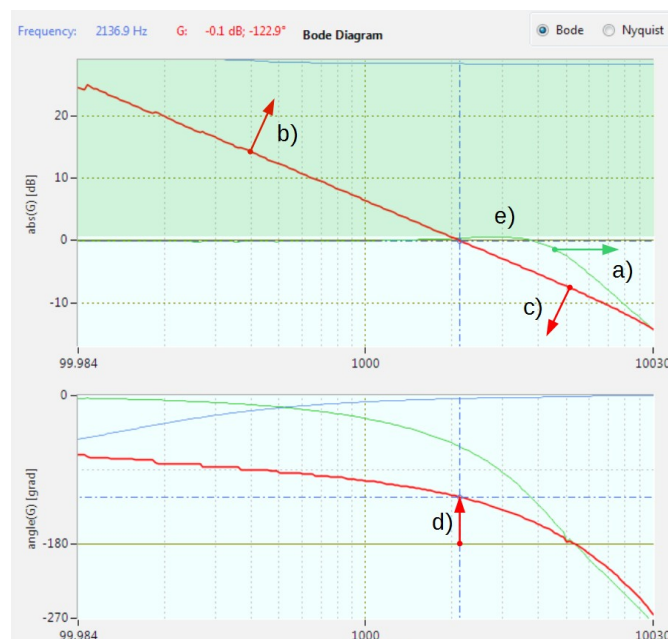
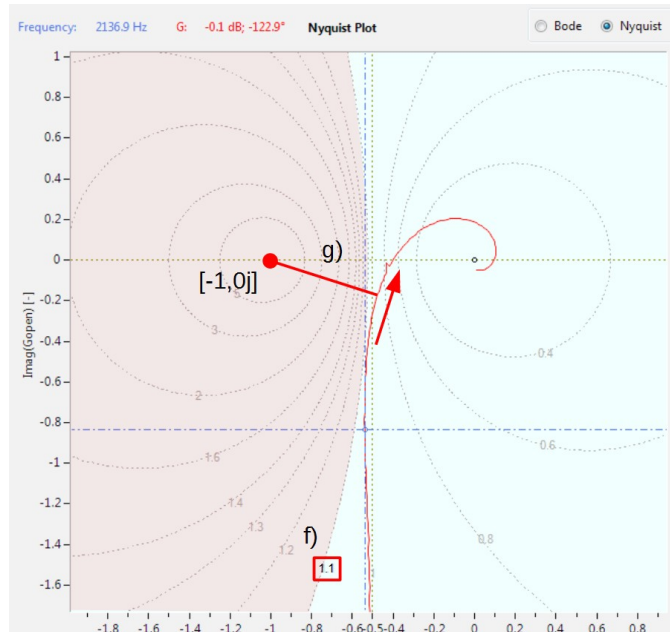

Figure 49: Tuning criteria in Bode view for the current controller.
Figure 50: Tuning criteria in Nyquist view for the current controller.
The goal for the tuning is to get a stable controller with the following characteristics (see also Figure 49 and Figure 50):
⁷ The phase-margin is the difference between the phase-angle of a transfer function $G_o(f_{gc})$ at the frequency f_{gc} where the amplitude of $H_o(f_{gc})$ crosses 0dB and -180° . See d) in Figure 49.
Tuning criteria in **Nyquist** plot view (Figure 50):
2. With the cross-hair search the frequency f_{gc} where $H_o(f_{gc})$ has a phase margin of 60° (Figure 49, marker d)).